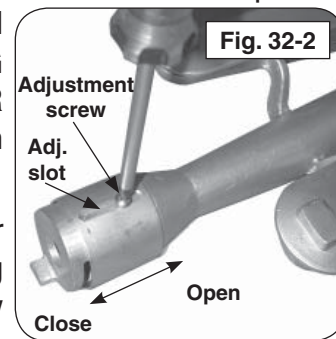

Fig. 32-2
2. Adjust the air shutter opening by loosening the adjustment screw with a screwdriver, then sliding the air shutter backward or forward to open or close the air shutter opening (see Fig. 32-2).